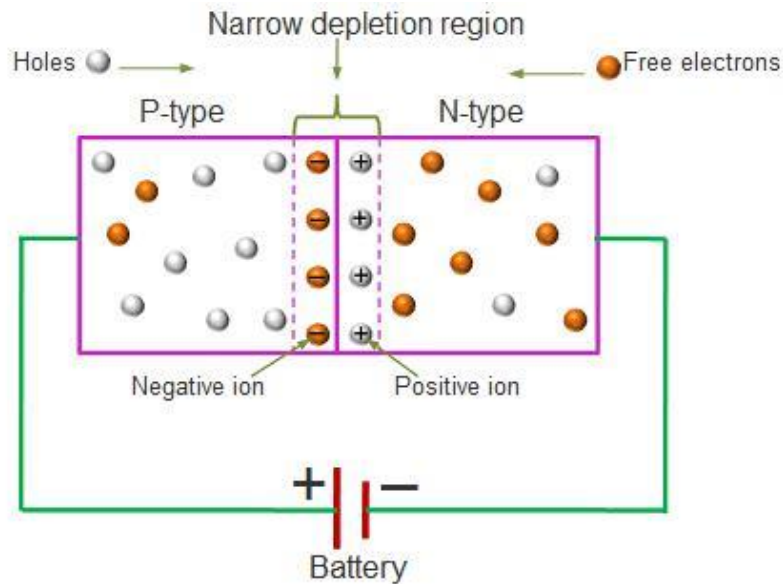

Fig 1.4: Forward biased PN junction
- The forward bias condition is shown in below fig 1.4.